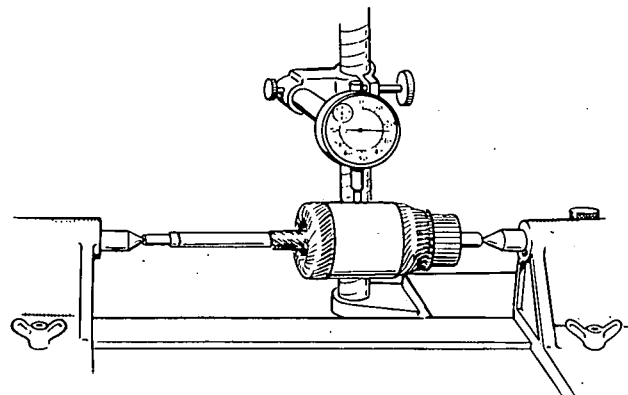

FIGURE 43. CHECKING ARMATURE SHAFT RUNOUT
5. **Testing Armature Shaft Runout.** The armature shaft as well as the commutator may be checked. A bent armature often may be straightened, but if the shaft is worn, a new armature is required (Figure 43).